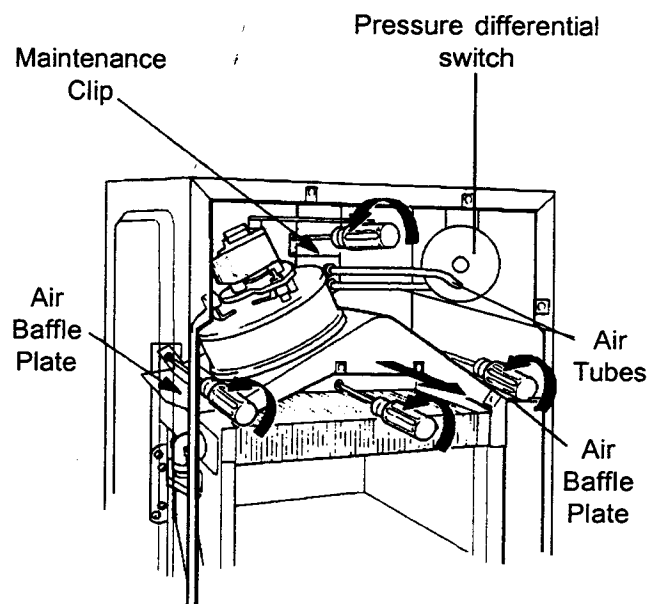

Fig. 29
- 8.9.4 Unscrew maintenance clip securing screws and remove clip (fig. 29)
- 8.9.6 Remove 3 flue hood retaining screws (fig. 29)
Part No 7070 Refer to fig. 29